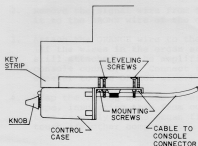

Figure 1. Control Mounted on Organ
CONTROL UNIT MOUNTING (figures 1, 2)
6. Put the four leveling screws (flat-headed machine screws) into the holes indicated in figure 2, WITH THE HEADS UPWARD. Hold the control mounting bracket in position at the location marked for mounting. Adjust each of the four leveling screws so that the control is positioned just below the keybed, and is level. See figure 1.